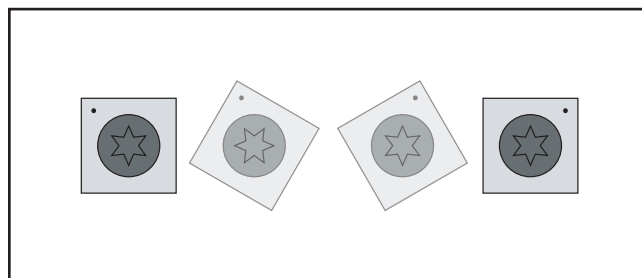

Figure 26. Insert rotating sequence.
The helical cutterhead is equipped with indexable carbide inserts that can be rotated to reveal any one of their four cutting edges. If one edge of the insert becomes dull or damaged, simply rotate it 90° to reveal a fresh cutting edge, as shown in **Figure 26**.
6. Rotate insert 90° and install so that a fresh cutting edge faces outward (see **Figure 26**).